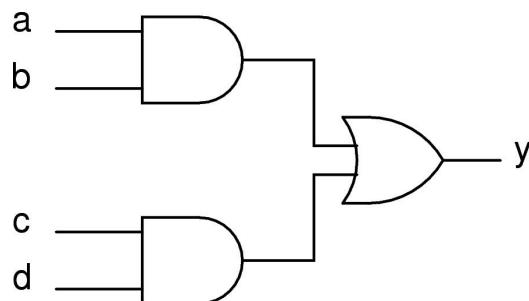
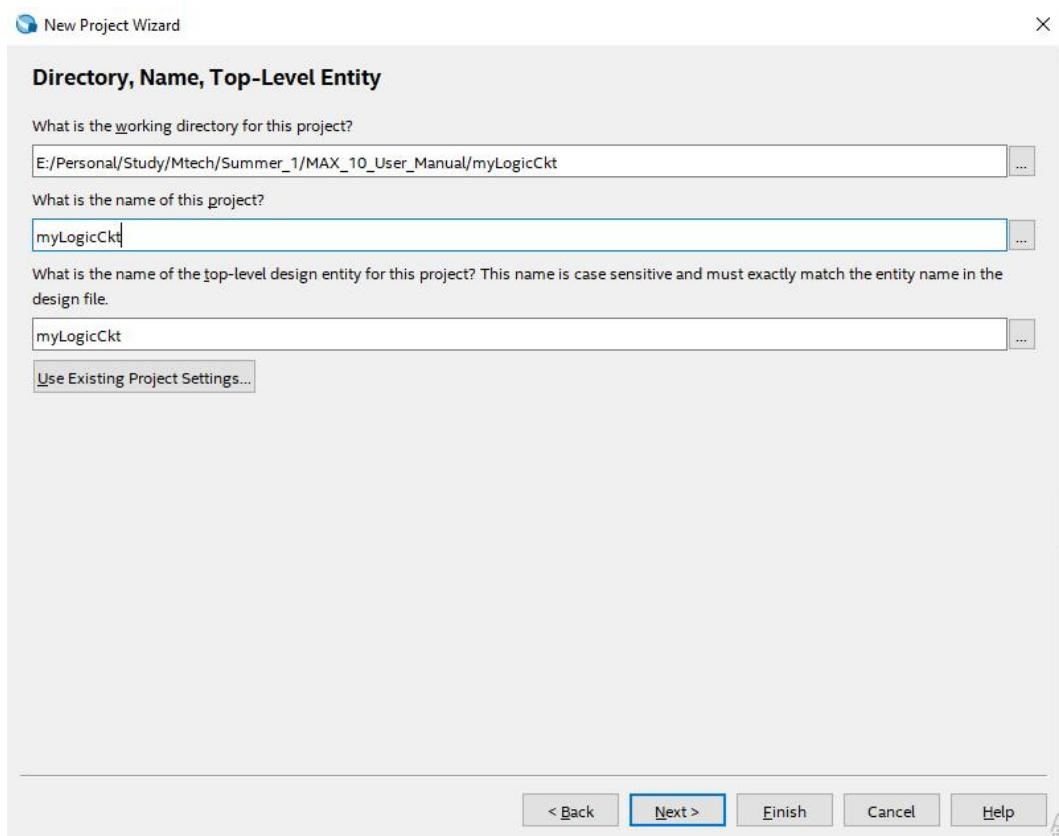

Figure 2: Example circuit to be implemented on Xen10
Figure 4: Quartus Project Directory info
Quartus II is the IDE provided by Altera for the user to write their HDL code (VHDL or Verilog) to target a digital system designed to be implemented on a target PLD (a CPLD or an FPGA). The IDE allows for code compilation, followed by generating a programming file for a specific target PLD. Quartus II has a free subscription/web edition that can be used. Suppose we wish to design and implement on Xen10 the simple logic circuit shown in Figure 2. This section provides a step-by-step method for doing the same.
3. This opens up 'Page 1'. Here, you need to specify a working directory for your project. Refer figure 4. Click Browse (...) to create a new folder for this project. Next specify the project name and top-level design entity. Important: This is a very critical step in your design. Top level design entity refers to the name of the entity in your HDL code (if you are using VHDL) or name of the module (if you are using Verilog) which you wish to implement. By default, the entity name follows the same name as the project. It is preferred not to change this. However, project name can be other than top-level entity name. Since, we wish to implement the circuit in Figure 2, name the project as myLogicCkt. The top-level entity is also named myLogicCkt by default. Click Next.